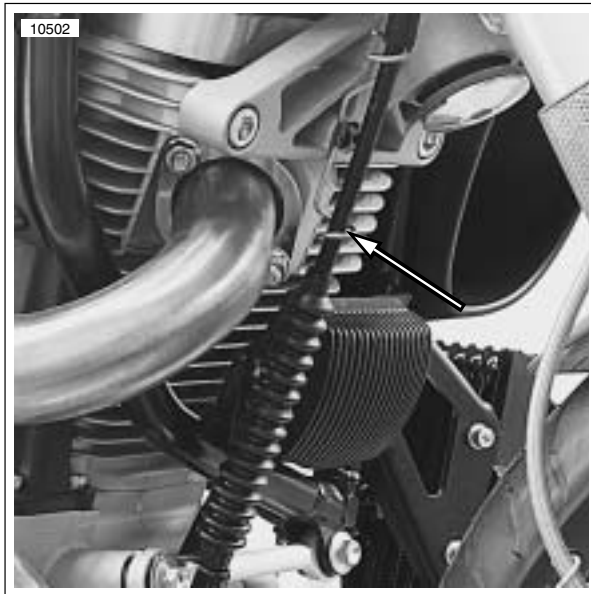

Figure 3-9. Clutch Cable Wire Form Retainer
10. See Figure 3-9. Pull clutch cable back up into the proper position.